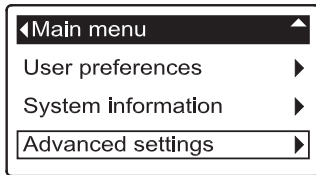

FIG. 38
2. From any of the rolling status screens, press the conditioner/refiner’s SELECT (O) button to display the **Main menu**.
3. Press the conditioner/refiner’s DOWN (▼) button to scroll through the menu options until **Advanced settings** is highlighted (See Figure 38).